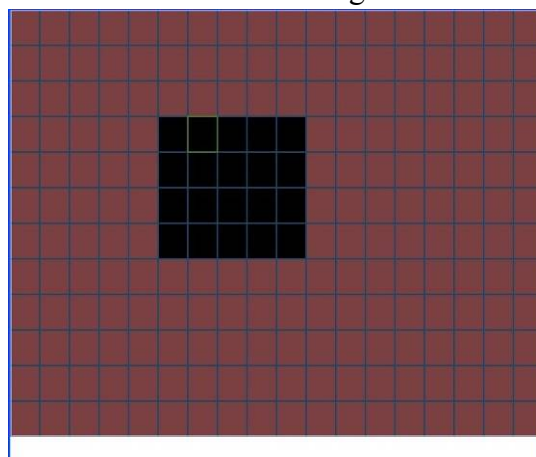

Figure 4-18
- Region: Click select button, the interface is shown as in Figure 4-18 Here you can set motion detection zone. There are 396(PAL)/330(NTSC) small zones. The green zone is current cursor position. Grey zone is the motion detection zone. Black zone is the disarmed zone. You can click Fn button to switch between the arm mode and disarm mode. In arm mode, you can click the direction buttons to move the green rectangle to set the motion detection zone. After you completed the setup, please click ENTER button to exit current setup. Do remember click save button to save current setup. If you click ESC button to exit the region setup interface system will not save your zone setup.
In Figure 4-18, you can left click mouse and then drag it to set a region for motion detection. Click Fn to switch between arm/withdraw motion detection. After setting, click enter button to exit.